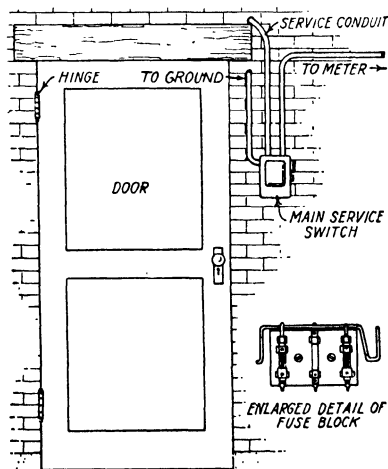
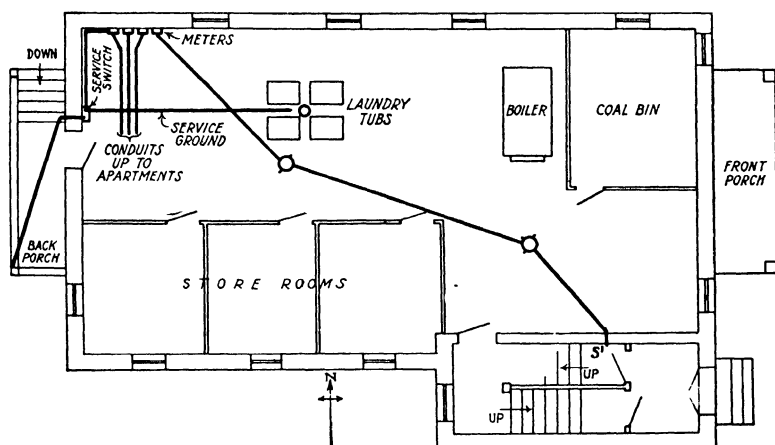

Fig. 18. Location of Main Service Switch and Details
Fig. 22. Conduit Layout in Basement
The Electrical Code usually requires that the main service switch be located at the nearest and easiest accessible point of the entrance of the service conduit into the building. In some cities the local ordinance limits the length of conduit inside the building to the service switch to a certain limit. In Chicago, for example, it is limited to 3 feet. In choosing the location of the service entrance, the best place is near the doorway that leads into the basement from the outside. Whenever possible, the service switch should be on the side of the doorway, opposite the hinges, as shown in Fig. 18, instead of placing it in a position that it will be back of the door
A view of the main service switch installed on the wall is shown in Fig. 18. In this type of service switch the fuses are located in outside wires, as shown in the enlarged detail, and the neutral is solid and does not have a fuse. The neutral wire will be connected from the service switch to the grounded water pipe when the wiring job is completed.
**Conduit in Basement and Hall.** The location of the outlets and conduit in the basement is shown in Fig. 22. In the basement
A one-half inch conduit for the ground wire is run from the service switch, Fig. 18, up the brick wall to the floor joists and across the floor joists to a point near the cold water pipe at the laundry tubs, Fig. 22, where it is bent down parallel to the water pipe. If the basement ceiling is to be plastered, notches must be cut in the floor joists and the conduit fastened in these notches or else run over the rough floor in the apartment above.
The ends of the three service wires in the service switch are soldered to copper lugs and connected to the top of the fuse block, Fig. 18. The white wire is connected to the center terminal which does not have a fuse. This is known as the neutral or grounded wire.